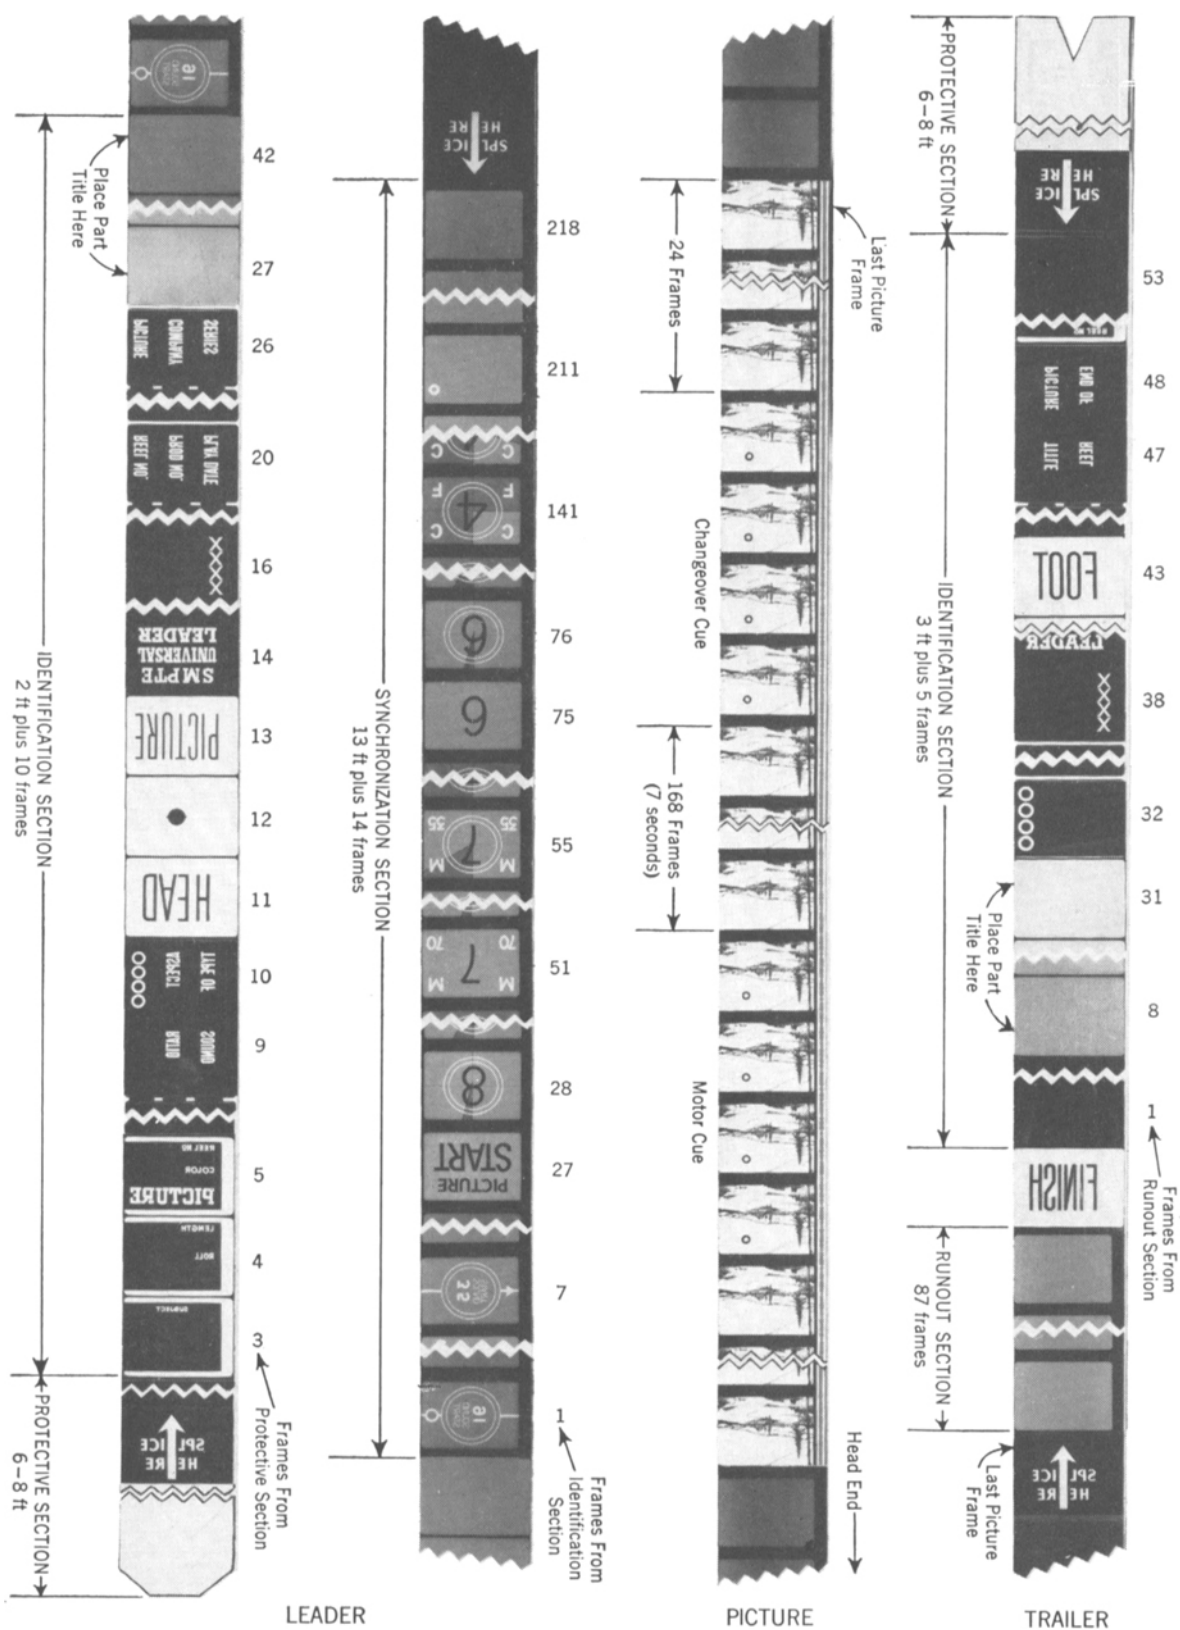

Fig. 1. Figure shows 35mm film with sound track on right edge as seen from the light source in the projector. The sound track is on the left edge of 16mm film.
4. Head Leader (See Fig. 1)
5. Picture Section (See Fig. 1)
6. Trailer (Foot Leader) (See Fig. 1)